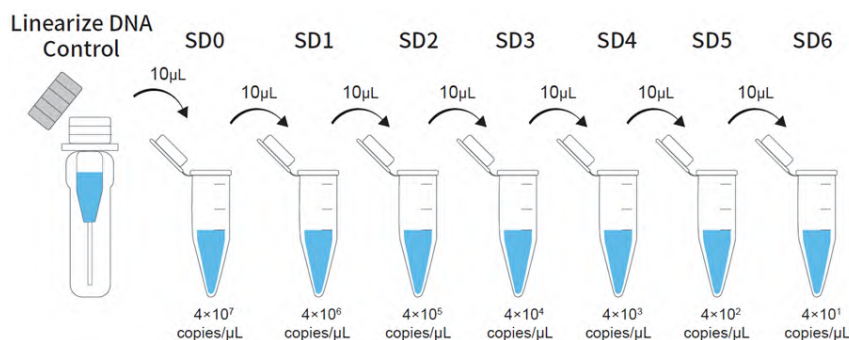

Figure 1. Linearize DNA Control Dilution Diagram
- c. Continue to transfer **10 µL** of DNA from the previous dilution tube to the next dilution tube until you add DNA to tube **SD6**. After each transfer, vortex thoroughly, then centrifuge briefly. The process of dilutions is shown in the following figure 1.